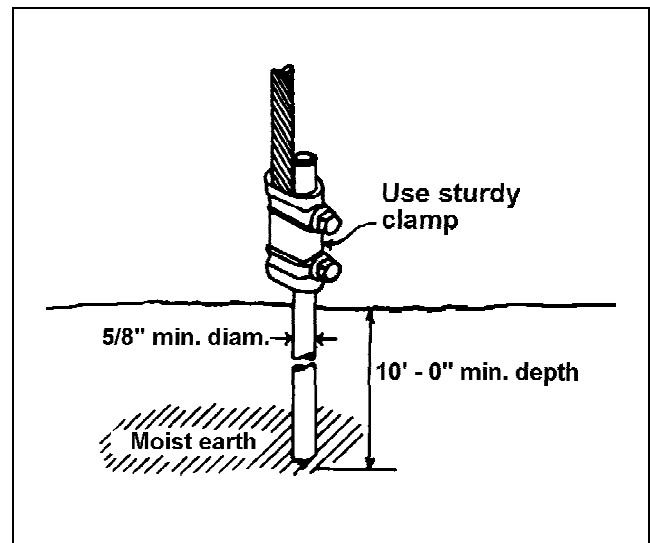

Figure 2. Ground connection
3. Grounds and ground connections provide contact with the earth for dissipation of the lightning charge (see Figure 2). Usually, at least two ground connections are needed for any building -- more